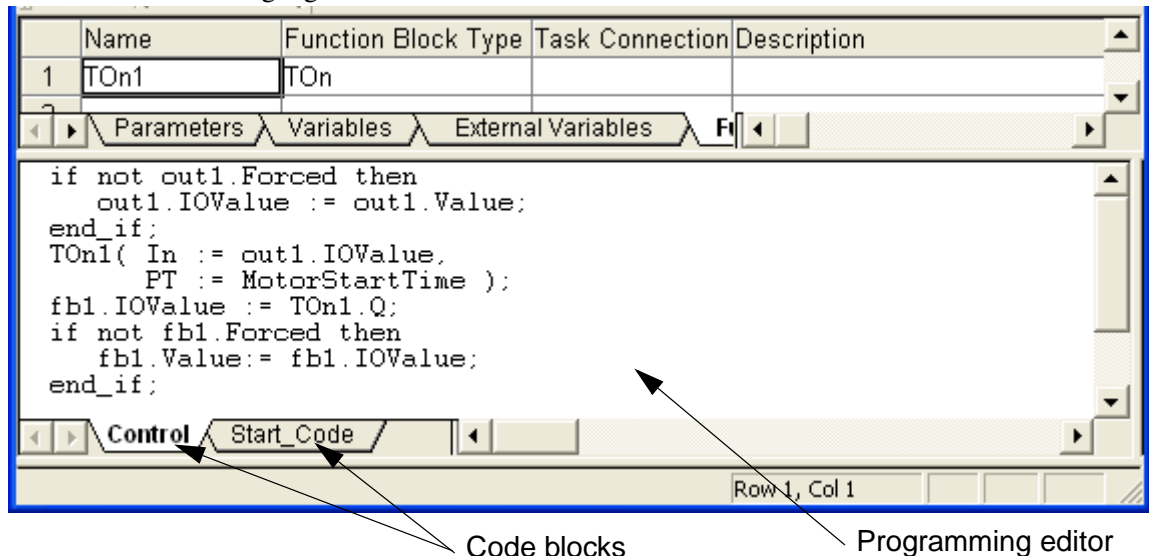

Figure 8. A programming editor with two code blocks.
- Programming editor for programming code (see Figure 8).
Figure 8 shows a part of a programming editor, which uses Structured Text (ST) as the language. This editor also contains two code blocks: Control and Start_Code.